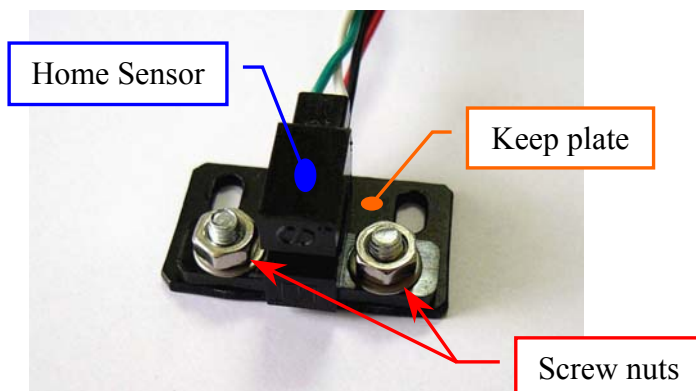

Fig. 130 – The two keep plate screw nuts of the Home Sensor
7. Unscrew the two keep plate screw nuts of the Washing Station Home Sensor (**Fig. 130**) and take out the sensor from the keep plate.
8. Position the keep plate under the new home sensor as showed in the **Fig. 130**, center the sensor with respect to the keep plate and screw its two screw nuts.